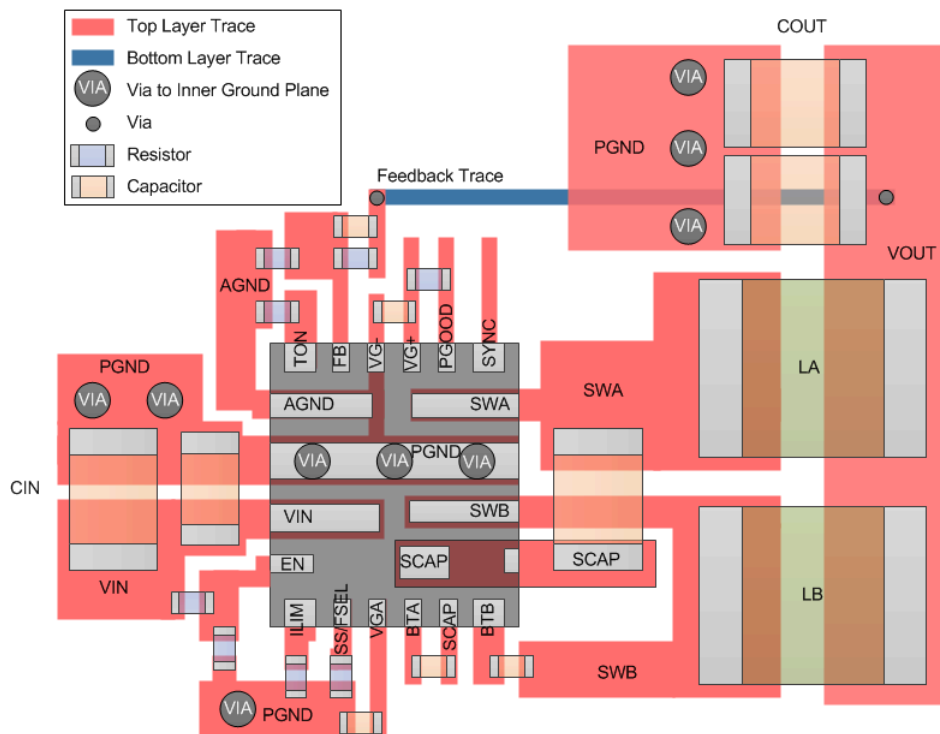
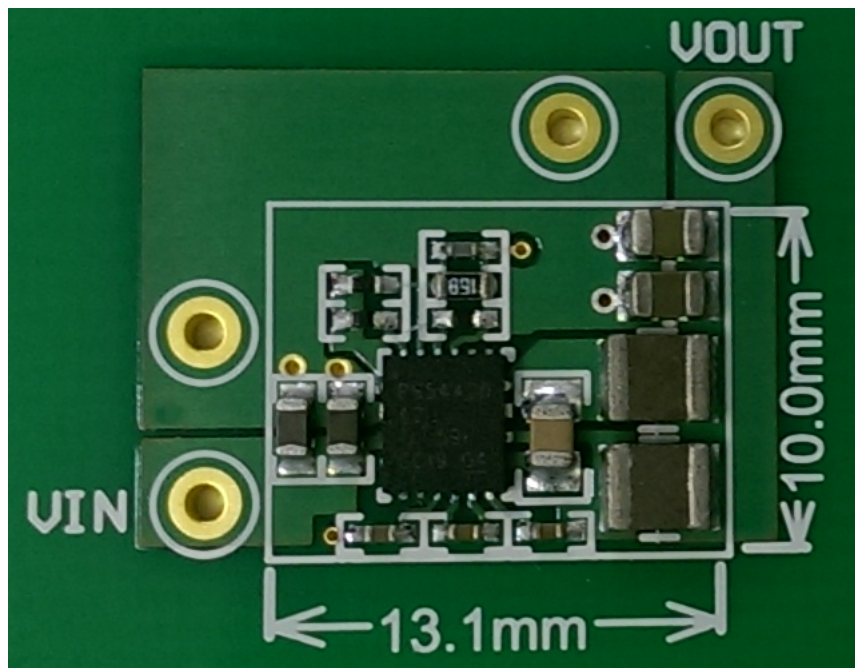

图 62. Layout Recommendation
图 63. Example Converter Layout
- Layout is a critical portion of good power supply design. See Figure 62 and Figure 63 for a PCB layout example. It may be possible to obtain acceptable performance with alternate PCB layouts, however this layout has been shown to produce good results and is meant as a guideline.
- The FB pin is sensitive to noise. The feedback resistors should be located as close as possible to the IC and routed with minimal lengths of trace. Place the feedback resistor network near the device to minimize the FB trace distance. When operating at 7 MHz or 10 MHz, a resistor (e.g. 10 kΩ) is required in series with the FB pin to reduce noise coupling and filter out high frequency noise as shown in Figure 62.
- The no connect (NC) pin should be connected to the trace connecting the SCAP pin to the series capacitor. This will improve board level reliability.